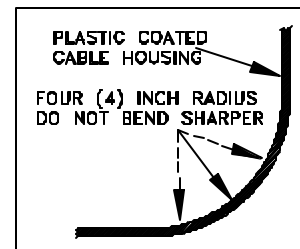

Figure 7
When routing the housing, do not make a turn tighter than a four (4) inch radius. See Figure 7. Anchor the housing in the middle of the bend. There are plastic cable ties and extra flag terminals included with the kit. You will also need to